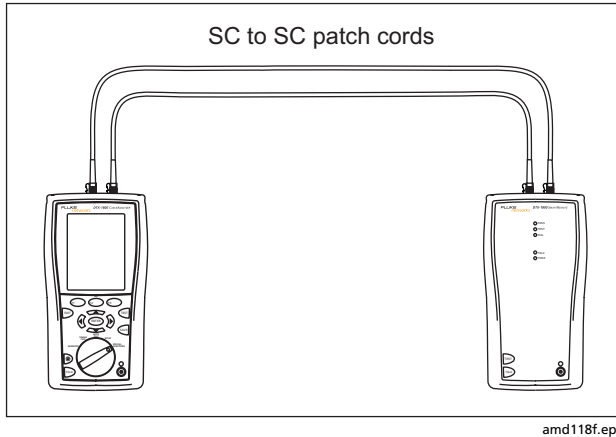

Figure 2-9. Self Test Connections for Fiber Modules
- 2-2 Connect the tester and smart remote together, as shown in Figure 2-9.